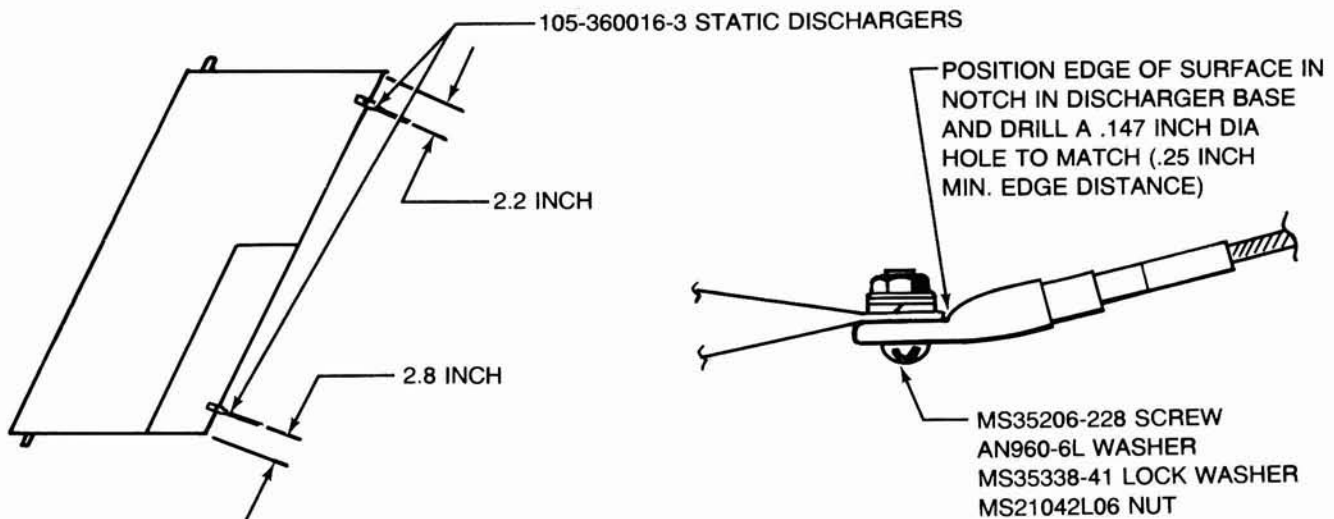

Figure 3.
11. Drill a .147 inch diameter hole at each location shown in Figure 3.
14. Install one P/N 105-360016-3 static discharger at each location shown in Figure 3. Touch up paint as required around the static dischargers. The metal base and the mounting bolt may be painted but do not paint the static discharger wicks.